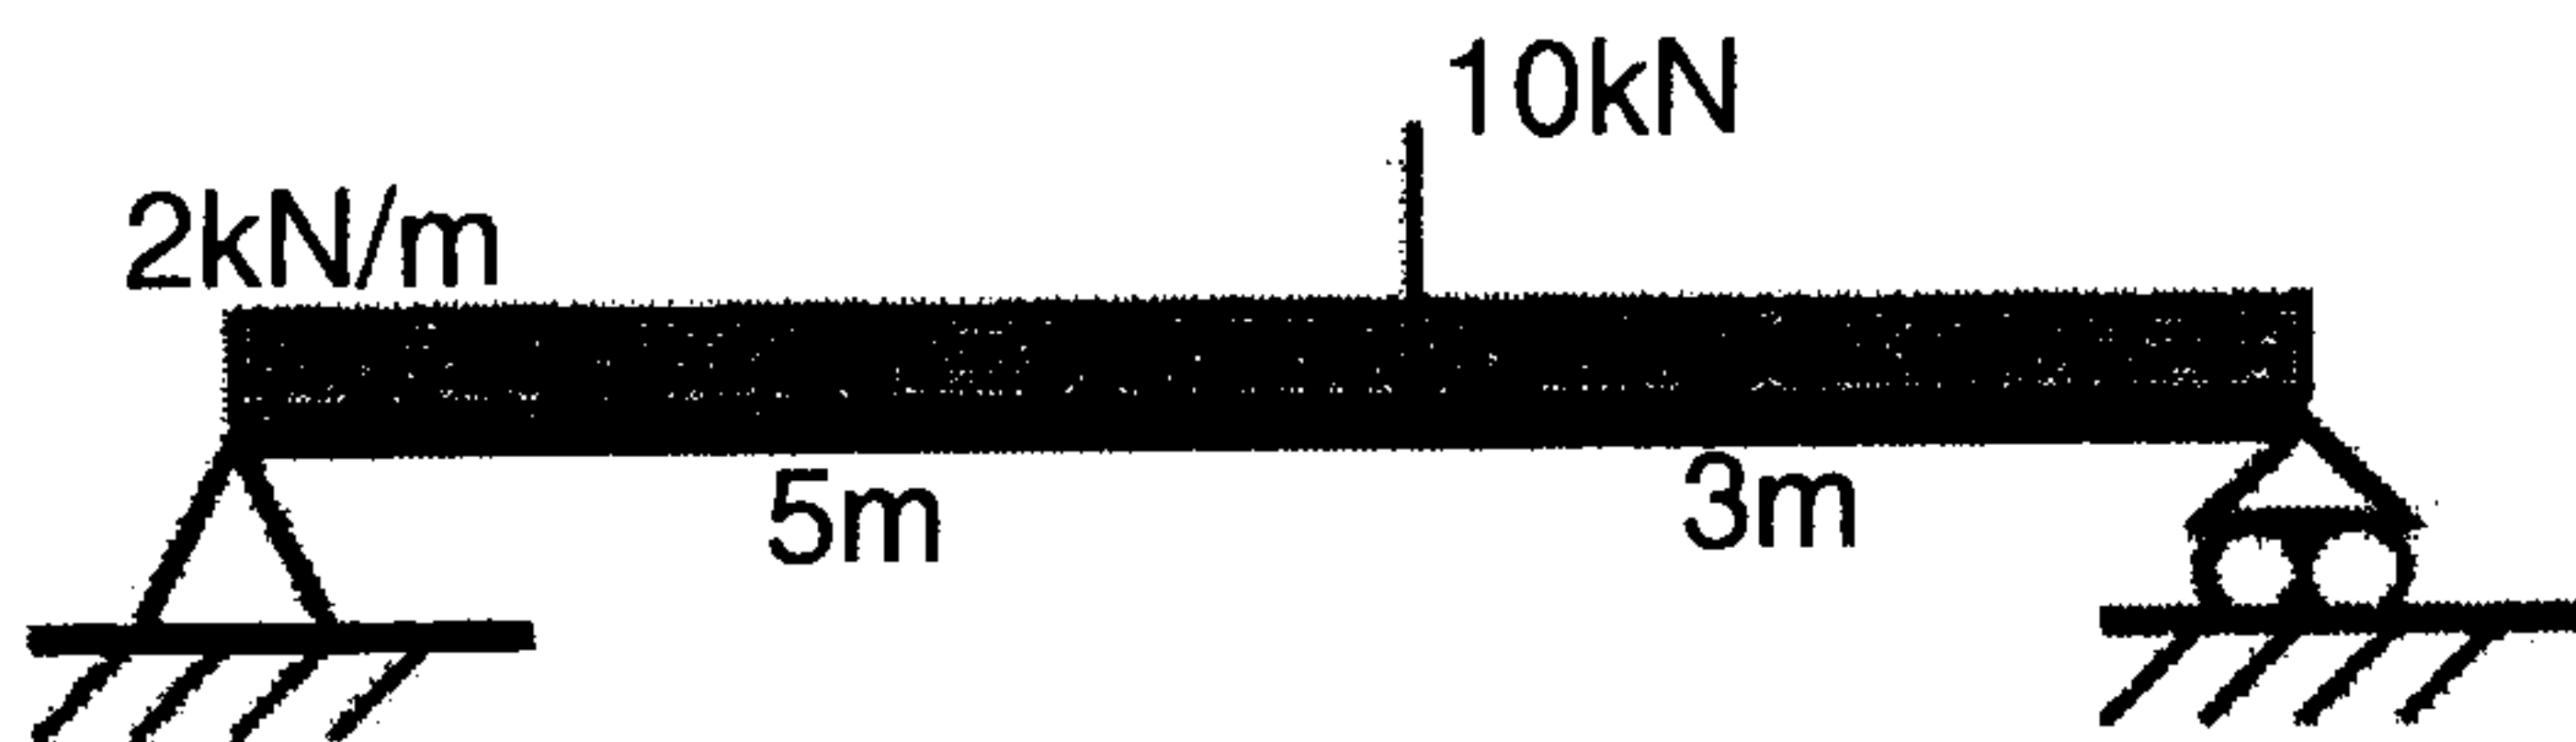

Figure 1
- B) Explain equations of equilibrium and equations of compatibility for the beam shown in figure 1. 3